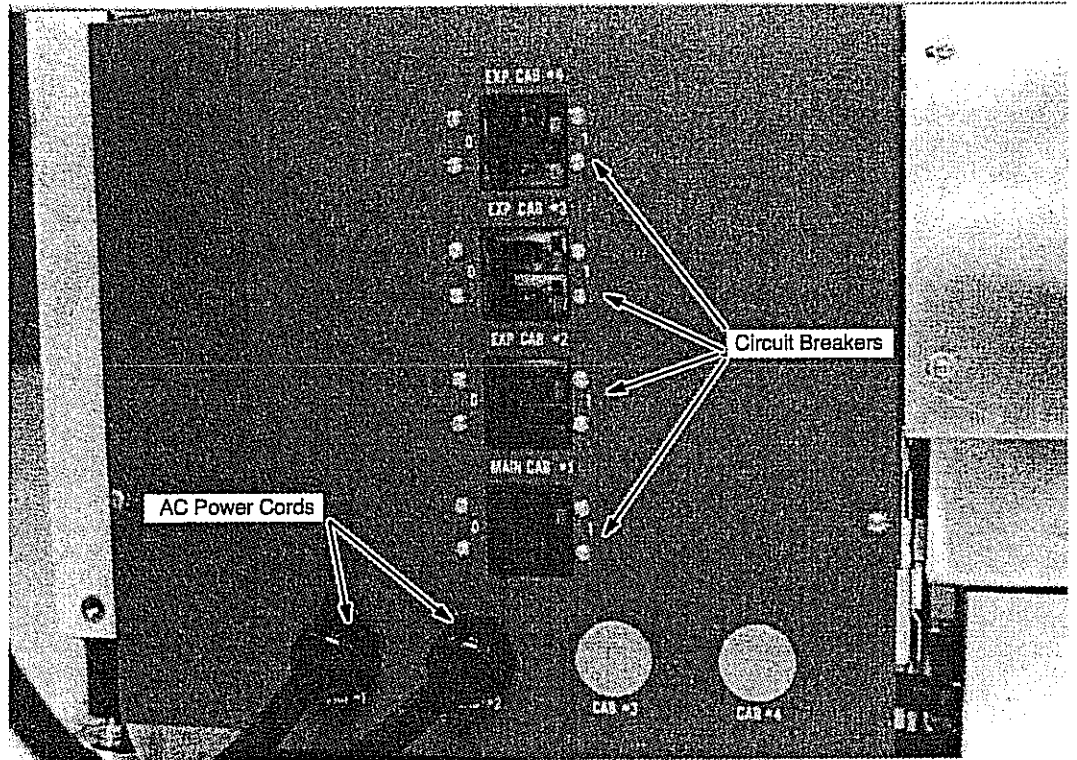

Figure 7-3. CRAY EL Series Circuit Breakers
5. Move the circuit breaker on the back of each cabinet to the ON position (1), turning on the highest numbered cabinet first. For example, in a four-cabinet system, cabinet 4 would be powered on first, and the mainframe cabinet would be powered on last. Refer to Figure 7-3.